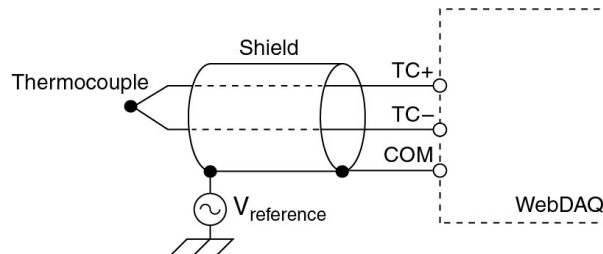

Figure 6. Typical thermocouple connection
The WebDAQ 316 supports type J, K, S, R, B, E, T, N thermocouples (TC), and provides overvoltage protection between any two inputs. A typical thermocouple connection is shown in Figure 6.